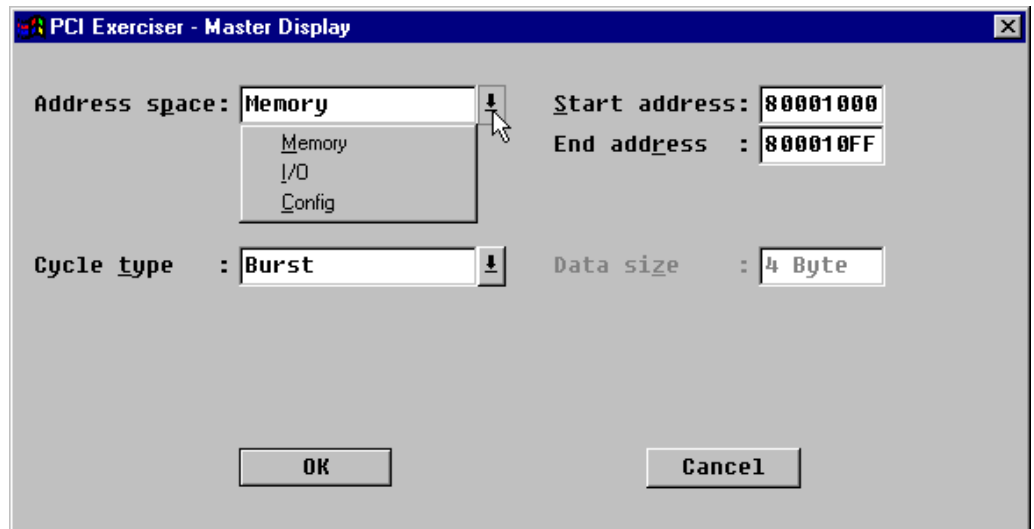

Figure 6.12 Master Display Command
**Master menu:** Select Display from the Master menu, and the dialog box in Figure 6.12 appears.